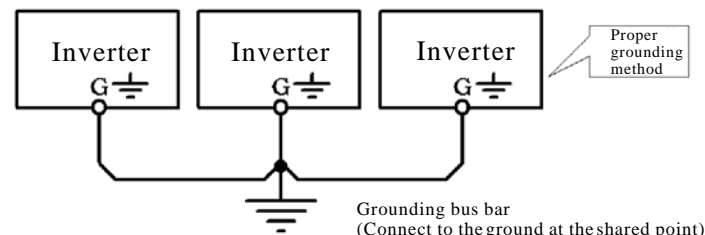

Figure 1-1
- The ground terminal must be reliably and properly grounded to ensure security. To avoid common ground impedance, multi-piece inverters should be grounded at one shared point, as shown in the Figure 1-1.